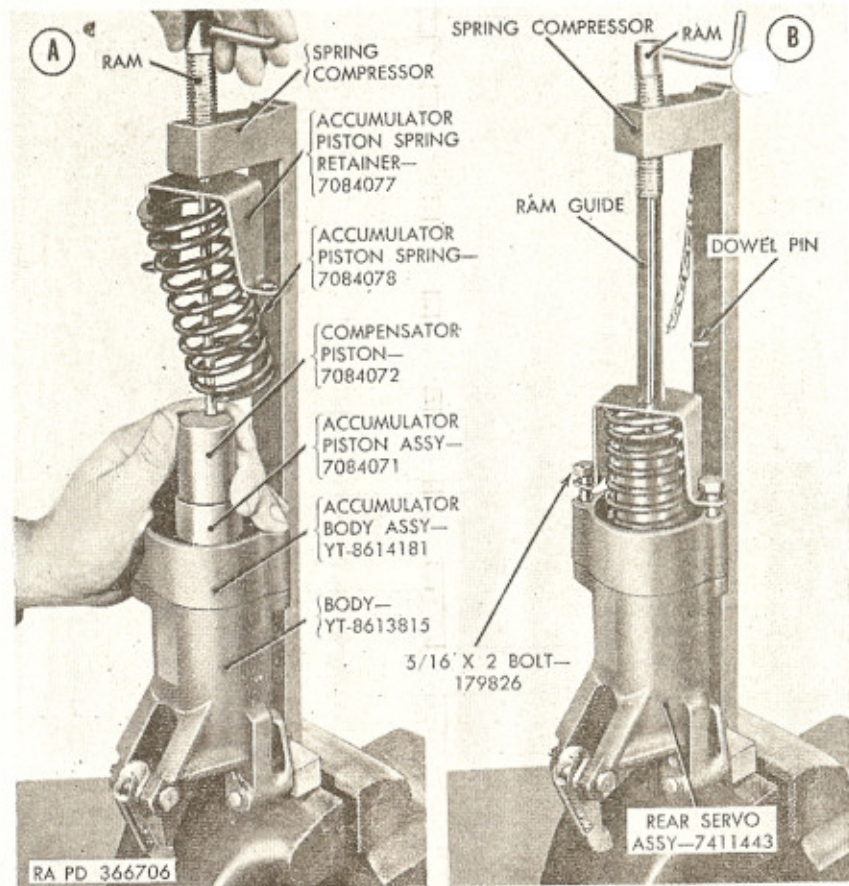

Figure 84. Use of rear servo spring compressor—C7950334 for assembly.
i. Insert compensator piston spring (E) in accumulator piston assembly (F).
j. Place compensator piston (D) over compensator piston spring (E).
k. Slide accumulator piston spring retainer (B) and accumulator piston spring (C) to top of ram on spring compressor—C7950334; then hook lower end of accumulator piston spring (C) over dowel pin. Refer to view A, figure 84.
l. Place rear servo assembly on spring compressor while pressing downward on compensator piston (D) and accumulator body assembly (H). Center ram on top of compensator piston. Slowly turn compressor handle to compress springs until compensator piston (D) is about to enter accumulator piston assembly (F).
m. Unhook accumulator piston spring (C). Place ram guide on ram.
n. Aline compensator piston (D) with accumulator piston assembly (F). Slowly compress springs with compressor ram until accumulator piston spring retainer (B) rests against accumulator body (H-3). Refer to view B, figure 84.
o. Install two $\frac{5}{16}$ x 2 bolts (A) through accumulator piston spring retainer (B) and accumulator body assembly (H) into body (Q). Tighten bolts to 10 to 13 pound-feet torque.